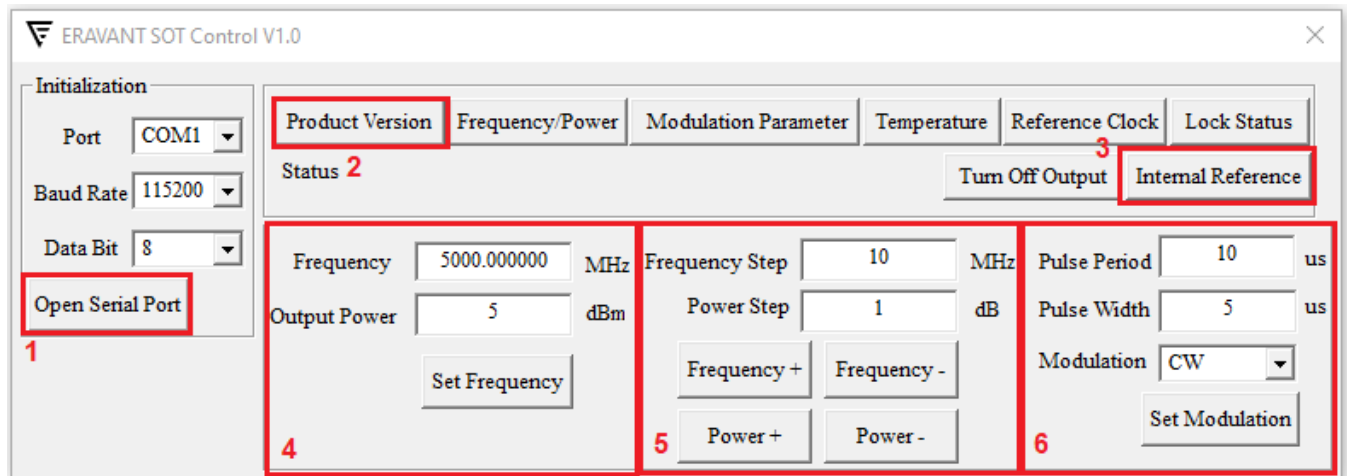

Fig. 1 Eravant SOT Control GUI for SOT-01210313200-SF-B6
As shown in Fig. 1, the steps to use the GUI to generate CW and pulse waveforms can be summarized as below,
1. Power on the synthesizer and connect the synthesizer to PC through serial port. Click on **"Open Serial Port"** on the GUI, which is indicated as block 1 in Fig. 1.